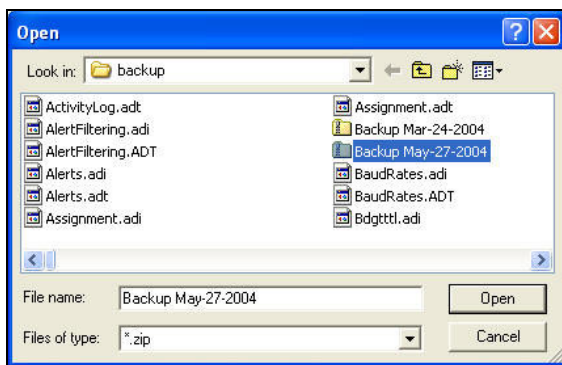

Figure 31.2.9
- Click on the **Browse** button to the right of the **File to restore** box. This will take you to the **Open** screen (Figure 31.2.9).